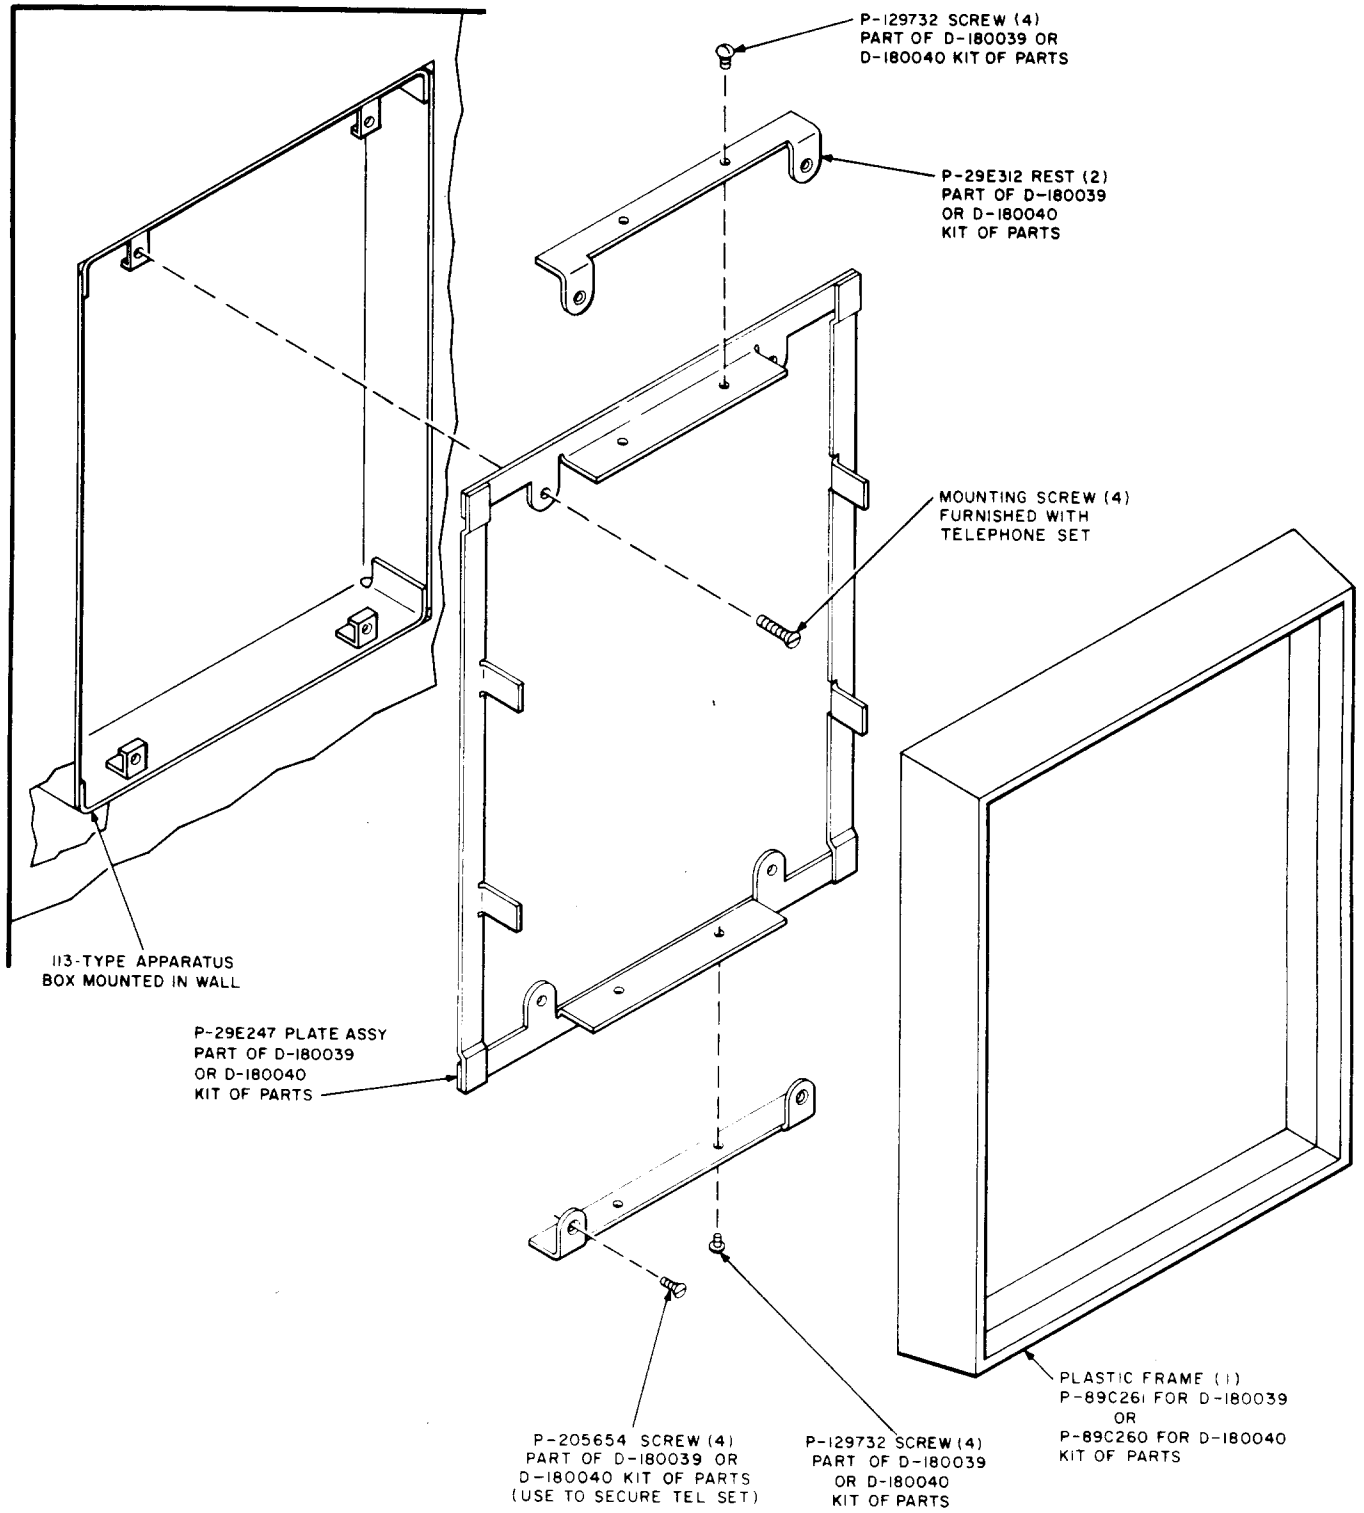

Fig. 3—D-180039 or D-180040 Kit of Parts
ordered separately, is required when these sets are to be installed in a 113-type apparatus box (Fig. 3). If an A25B connector cable is used to connect telephone set, proceed to (4).
- (1) Dress inside wiring cable conductors through appropriate slots in the 75A connecting block (ordered separately).
- (2) Secure connecting block to upper right hand mounting brackets of apparatus box.
- (3) Terminate inside wire and D50AA-3 mounting cord conductors in standard color code sequence. Dress mounting cord slack to right
(4) Using the four mounting screws supplied with the telephone set, secure the P-29E247 plate assembly from the D-180039 or D-180040 Kit of Parts to the set mounting brackets of the apparatus box (Fig. 3 and 4).
(5) Secure two rests (P-29E312), from the kit of parts, to the plate assembly using four screws (P-129732) furnished with the kit.
(6) Remove plastic retainer frame and mat from telephone set. The plastic frame furnished with the telephone set will not be required for this installation.